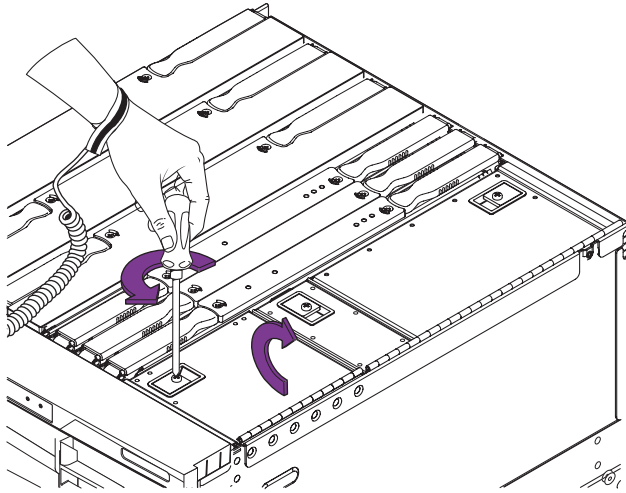
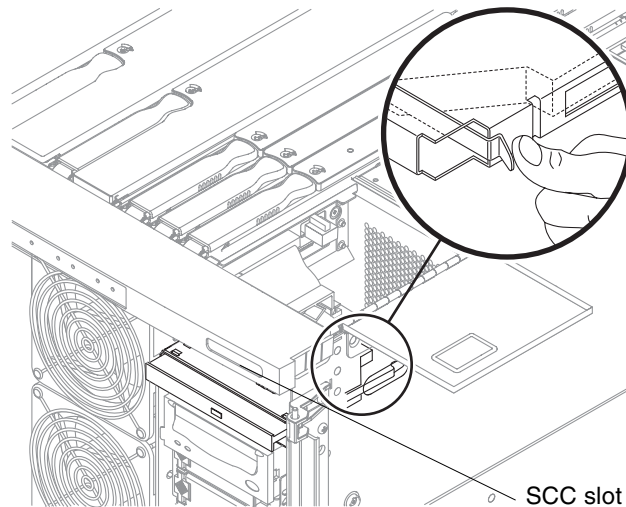

FIGURE 6-14 Opening the Media Bay Access Door—System Top View
FIGURE 6-18 System Configuration Card Slot Location
4. Open the media bay access door at the top of the system. Loosen the latch securing screw. Lift the latch and raise the cover (FIGURE 6-14).
2. Open the media bay access door at the top of the system (FIGURE 6-14).
To remove or replace the SSC reader (FIGURE 6-18) you must open the media bay access door at the top of the system (FIGURE 6-14).
This card is the size of a credit card, and is located above the CD-ROM drive (FIGURE 6-18).
8. **Open the media bay access door. Loosen the latch securing screw. Release the latch and lift the cover (FIGURE 6-14).**
2. Open the media bay access door and loosen the latch securing screw. Release the latch and lift the cover (FIGURE 6-14).